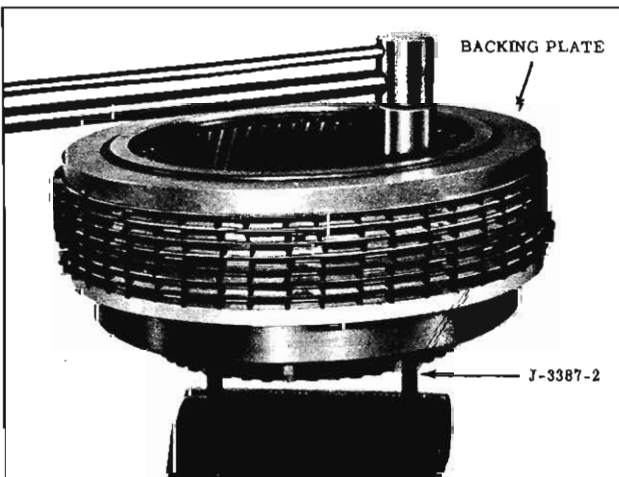

Fig. 6-78 Assembly of Front Clutch
9. Insert Tool J-3387-2 into dowel holes in back side of front clutch assembly, then install front clutch assembly with studs into vise so studs are retained by vise jaws. (Fig. 6-78)